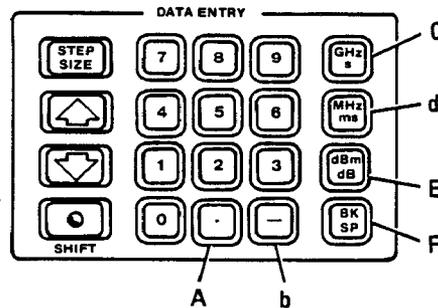

Figure 8-2. Hex Entry Keys
When the HP 8350B is in the Hex Data WRITE mode, several front panel keyboard pushbuttons function as hexadecimal digits. See Figure 8-2.
3. Enter the hexadecimal equivalent of the desired Binary number by pressing [M2] (hex write command) and then enter a two-digit hexadecimal number through the data entry keyboard. The first number will be output on D4 – D7 lines, the second on D0 – D3. Refer to Table 8-3 for a binary to hexadecimal conversion chart. Use data entry [.] [-] [GHz/S] [MHz/ms] [dBm/dB] and [BK SP] keys to enter the hexadecimal values A, B, C, D, E, and F respectively (Refer to Figure 8-2, Hex Entry Keys).